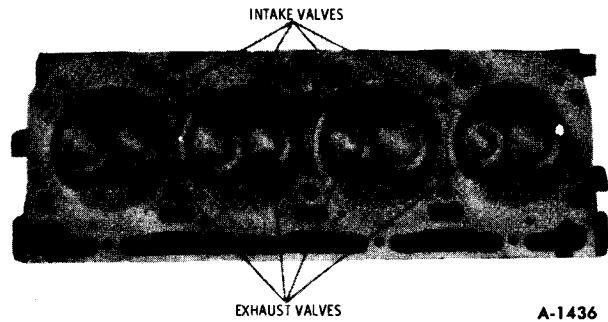

Figure 29—Valve Location
5. Remove valves. Keep valves separated so they can be installed in their original locations (figure 29).